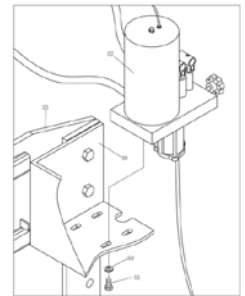
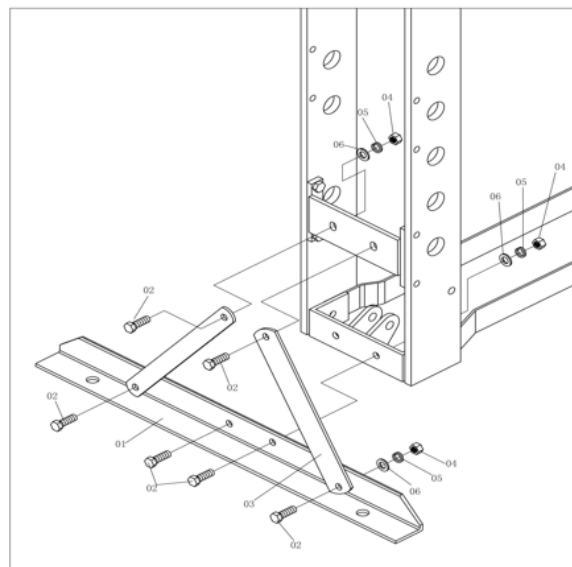

Figure 3
Figure 2
- **Attach the foot section (3) and support (2) to left and right connecting plate (7) using bolt (01), washer (04), lock washer (05) and nut (06).** (figure 2)
- Assemble the nylon ring (42) to gauge fitting (43), then put the pressure gauge (41) and twist tight. Remark: twist as tight as possible, otherwise it may leak. Attach the gauge fitting to the suitable upper cross beam and twist bolt (44)
- Pump assembly: attach the pump assy' (57) to pump setting plate (49) by using three bolts (51) and lock washer (50) and twist tight. (figure 3, 4)
- Oil hose 1 assemble: dismantle the plug from oil hose 1 (58) then assemble the o-ring(45), also dismantle the plug from ram assy'(37), connect the oil hose 1 (58) to ram assy'(37) and twist tight.
- Oil hose 2 assemble: attach the o-ring (45) to gauge fitting (43), then put the oil hose 2(59) into the gauge fitting (43) and twist tight, connect the PU pipe (A-A). Attach the handle (53) to the pump pin by using bolt (56) and twist tight, also the same as handle 2 (54).
- Remark: before assemble, open the breather valve (61) first which is on the cylinder (pull up the breather valve).